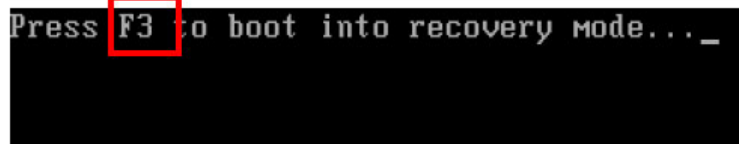

Figure C-10: Press F3 to Boot into Recovery Mode
Step 1: Turn on the system. When the following screen displays (**Figure C-10**), press the <F3> key to access the recovery tool. The message will display for 10 seconds, please press F3 before the system boots into the operating system.